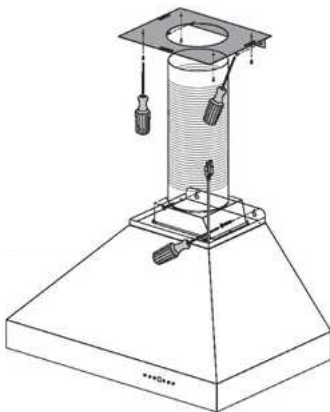

Figure 8
- Mark the mounting points and install the two mounting screws provided leaving the heads out $\frac{1}{4}$ " to mount the hood. *Figure 8*